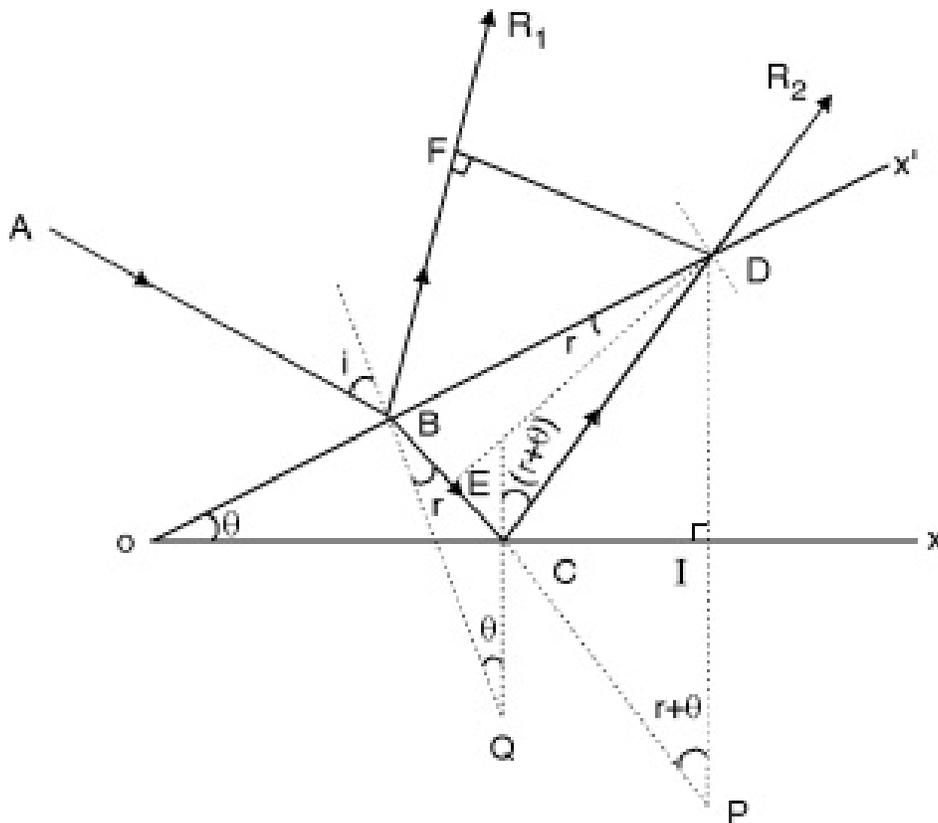

Fig. 1.7.1 : Interference in wedge shaped film
- Consider a film of non-uniform thickness as shown in Fig. 1.7.1. It is bound by two surfaces OX and OX' inclined at an angle θ . The thickness of the film gradually increases from O to X .